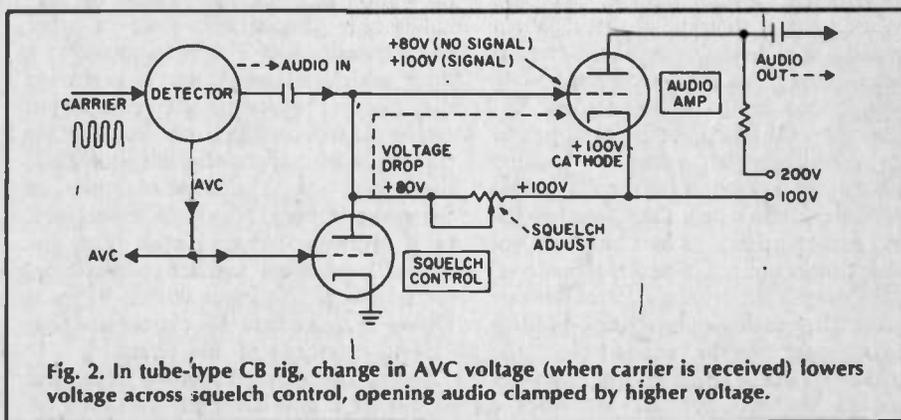

Fig. 2. In tube-type CB rig, change in AVC voltage (when carrier is received) lowers voltage across squelch control, opening audio clamped by higher voltage.
**Bottled Squelch.** A tube variety is shown in Fig. 2 and its operation boils down to this: AVC voltage is greatly boosted by an amplifier, then the magnified voltage controls the grid bias of a regular audio stage. Since AVC amplified voltage now swings over a much larger range, the audio tube switches briskly on and off. Let's trace it in some detail in Fig. 2. First, there's the con-
For the system to operate properly, you must set a squelch with care. The usual problem results when the knob is set too high and weaker stations cannot activate the squelch. As you can see in Fig. 2, a high setting could place the audio grid too far into the negative re-